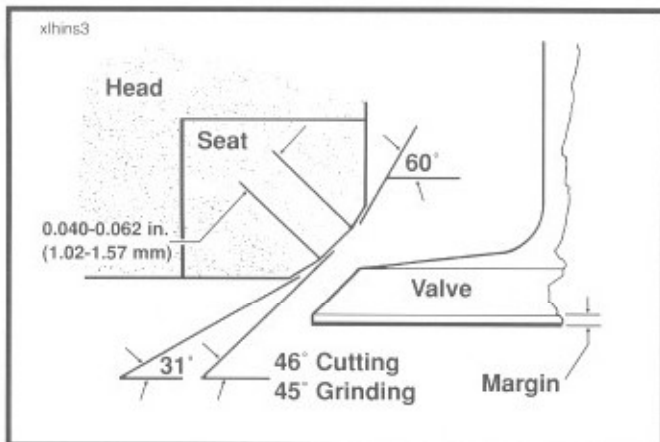

Figure 3-20. Valve Seat Angles
See Figure 3-20. Correct 3-angle valve seat angles are shown. Use NEWAY VALVE SEAT CUTTERS; which are part of NEWAY VALVE SEAT CUTTER SET, (Part No. HD-35758) to cut the seats. Always grind valves before cutting seats.
3. See Figure 3-20. Check the contact pattern on valve face. It should be 0.040-0.062 in. (1.02-1.57 mm) wide, and its center should be positioned 2/3 of the way toward the outside edge of face.